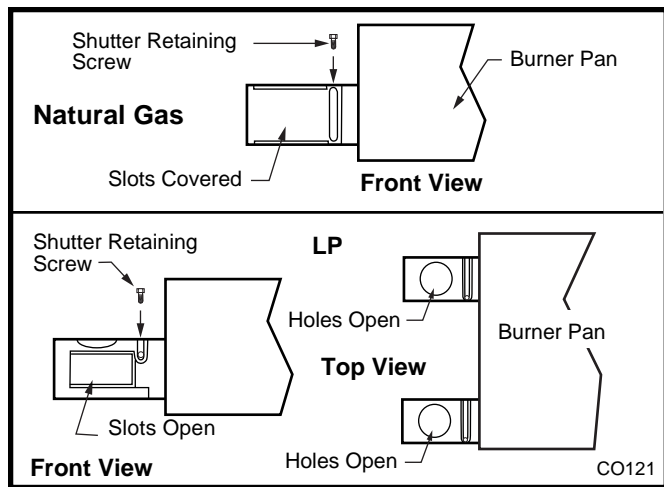

Fig. 60 Install conversion shutter. Adjust holes and slots.
5. Install air shutters supplied in kit on burner pan. Replace shutter retaining screw. For conversion to natural gas adjust both air shutters so slots are covered. For conversion to LP gas, adjust both air shutters so all slots and holes are visible. Secure shutter retaining screw. (Fig. 60)